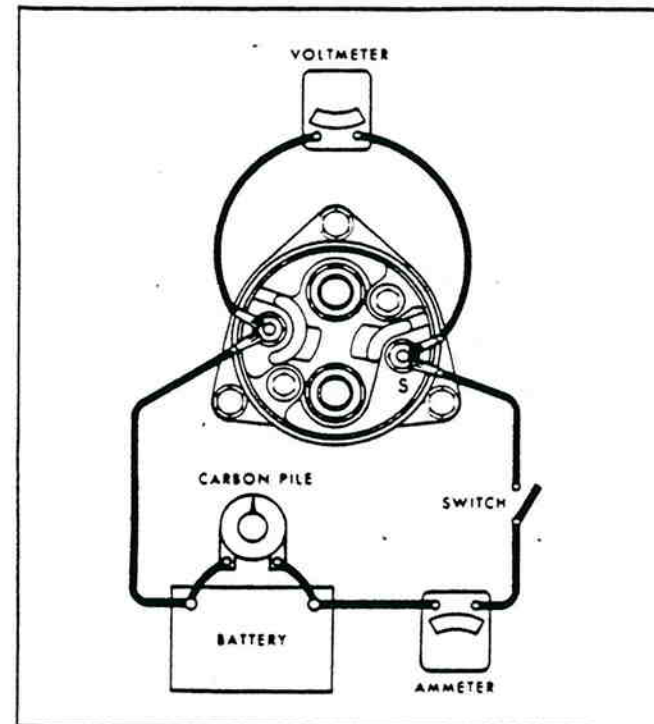

Figure 7-42.
18. As shown in figure 7-42, make connections to the "S" and ground return terminals. If needed, use the carbon pile to decrease the battery voltage to the value specified and compare the ammeter reading with the hold-in winding specifications. A high reading indicates a shorted winding, and a low reading indicates excessive resistance.